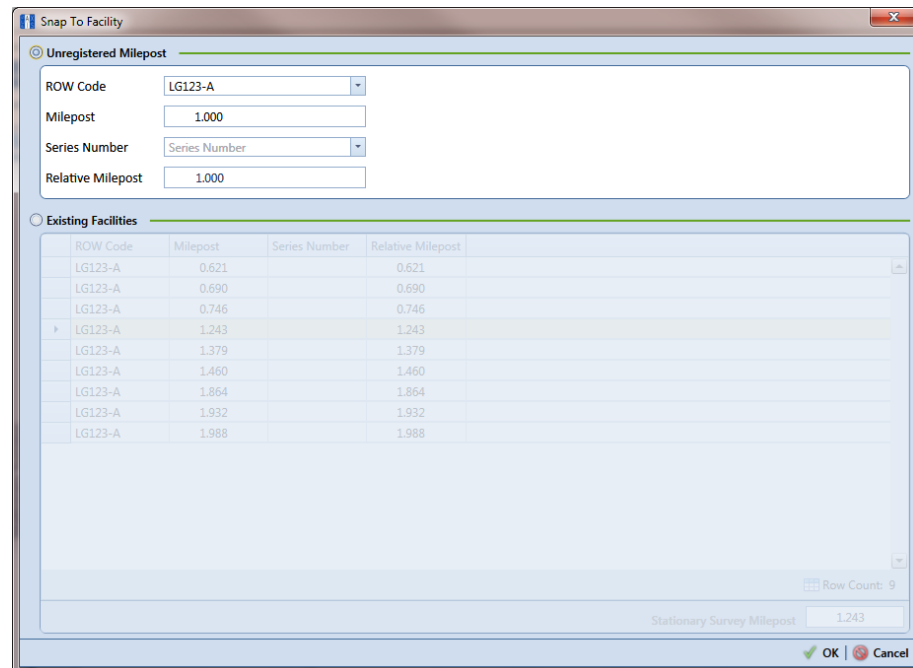

Figure 14-13. Snap To Facility
To ensure telluric compensation calculations are accurate, use *Snap To Facility* to match milepost locations in a stationary survey to existing milepost locations already established in PCS Axis (Figure 14-13).
- 4 Select a stationary survey in the *Stationary Surveys* grid and then click the  **Snap To Facility** button to open the *Snap To Facility* window (Figure 14-13).